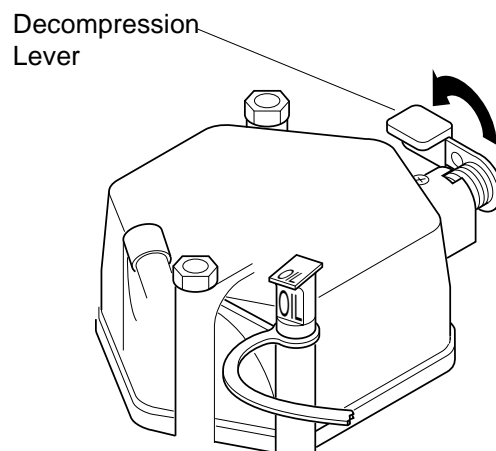

Figure 20 - Decompression Lever
- II. Push decompression lever all the way down (see Figure 20). Decompression lever will stay in this position until you pull starter rope.